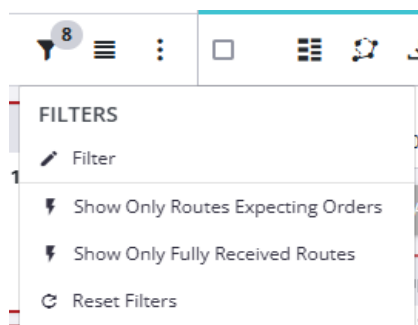

Figure 54 - Fast filters and Reset option
3. Click *Done* when you are finished filtering, or *Reset* to clear filters (see *Figure 54* below).
- 5. Click *Done* when you are finished filtering, or Select *Reset* to clear filters (see *Figure 54* below).